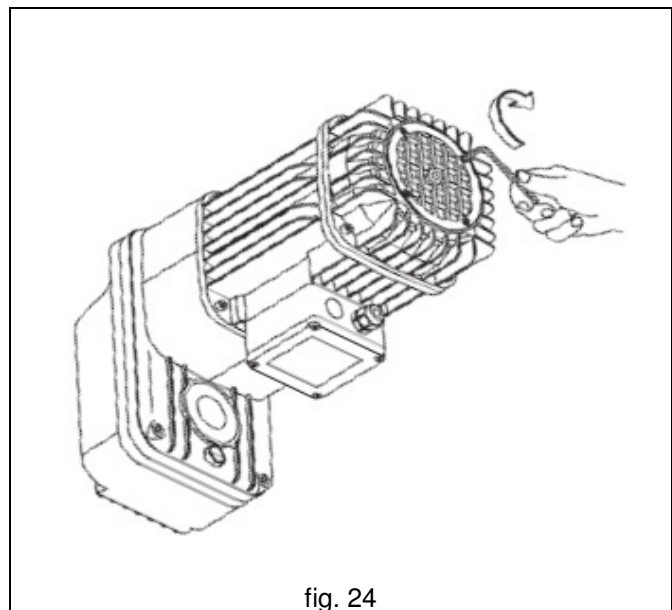

fig. 24
7. Reassemble the grid (aerator), fastening the four screws back on completely (fig. 24).